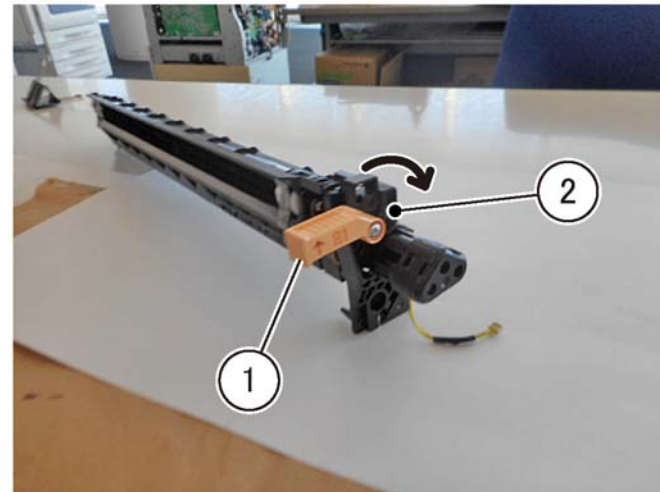

Figure 1 Developer front cover removal
- Remove the developer front cover, Figure 1.
- Lower the lever (1).
- Remove the developer front cover (2) in the direction of the arrow.